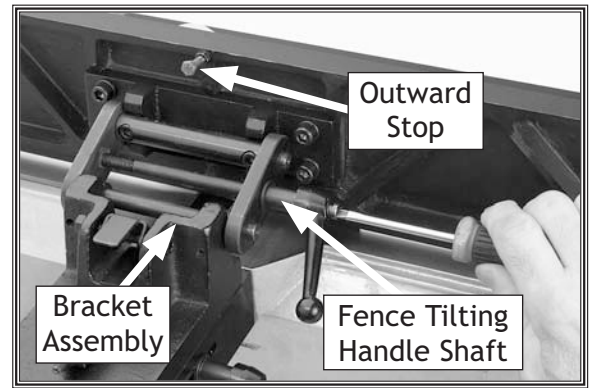

Figure 18. Installing the fence tilting handle.
8. Install the fence tilting handle by screwing the handle shaft into the bracket assembly, as shown in Figure 18.